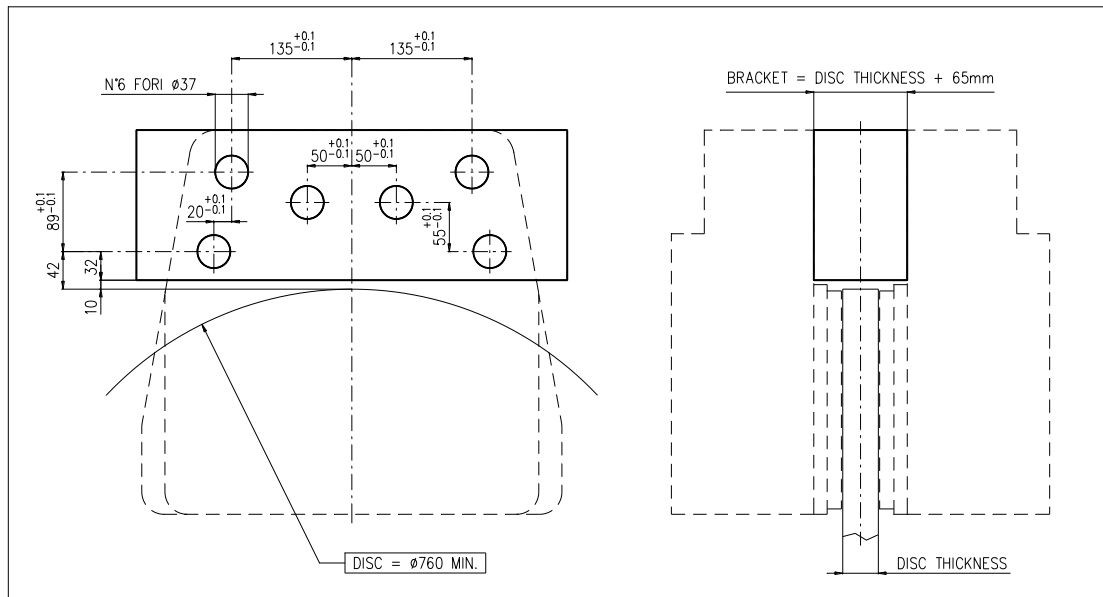

Figure 1 - Installation
1. The ID 3000 brake must be installed on a bracket having the same thickness as the disc + 65 mm (Figure 1). The brake must be anchored using six M33 class 12.9 screws and tightening torque of 4020 Nm.